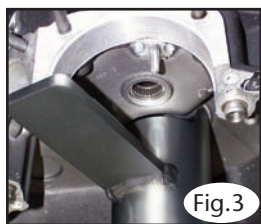

Fig.3
- 2: With the Cam side of case facing up, bearing centered over tool support and the of leg of support tool located as shown in Fig. 3. This will allow the case to sit flat on support tool.